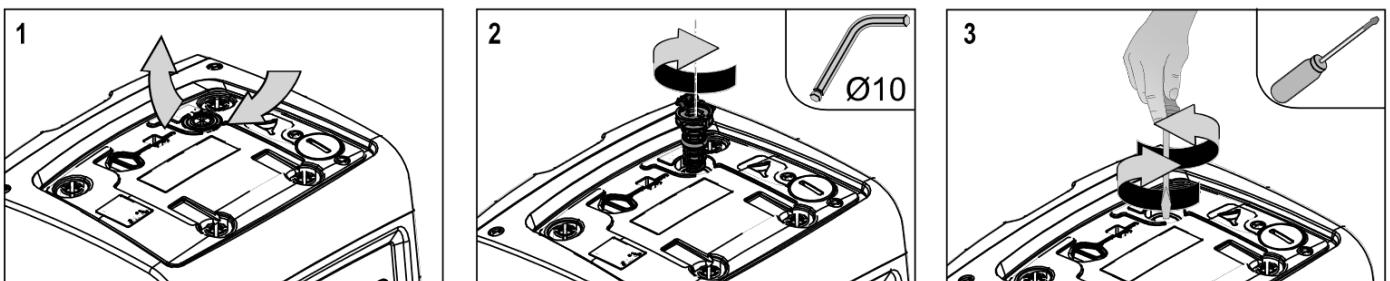

Figure 23
2. lift the rubber cover of the motor shaft access cap (*Fig. 23*);
3. using a 10mm hexagonal key, remove the motor shaft access cap (*Fig. 23*);
4. insert a flathead tip screwdriver in the groove on the motor shaft and manoeuvre, turning in 2 directions (*Fig. 23*);